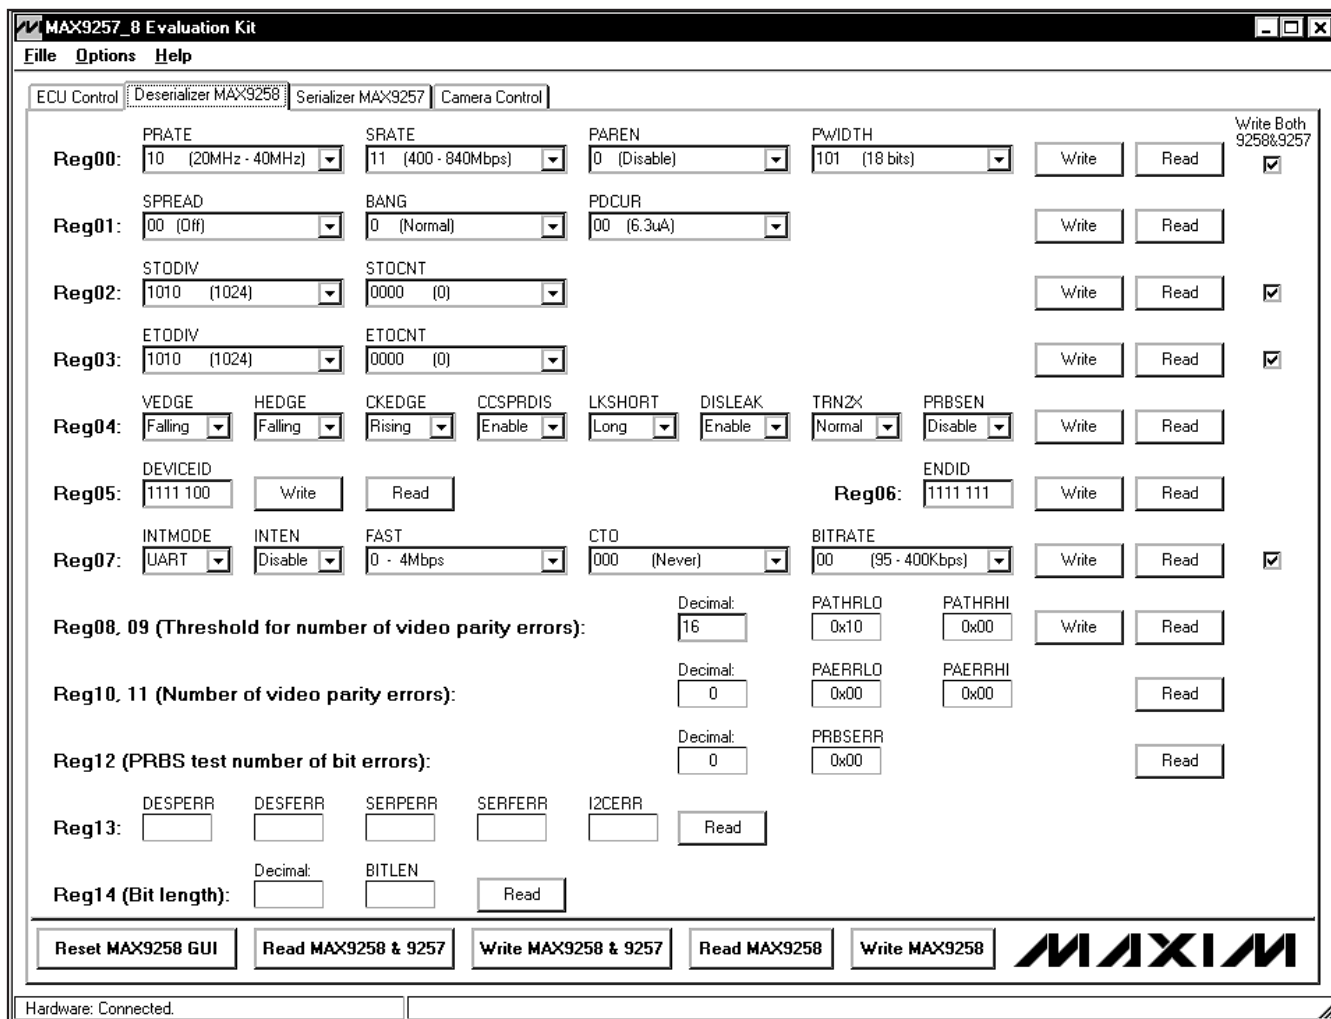

Figure 4. MAX9257/MAX9258 Evaluation Kit Software—Deserializer MAX9258 Tab
- 17) Click on the **Deserializer MAX9258** tab to move to the **Deserializer MAX9258** tab sheet (Figure 4).
On the **Deserializer MAX9258** tab sheet (Figure 4), the ECU can write or read all registers on the MAX9258 by pressing the **Write** or **Read** buttons on the right of each register. Refer to the MAX9257/MAX9258 IC data sheet for the definition of each register.
- 3) Navigate to the **Deserializer MAX9258** tab sheet (Figure 4). Press the **Read MAX9258 & 9257** button to refresh the current register values on the GUI.
- Navigate to the **Deserializer MAX9258** tab sheet (Figure 4). Press the **Read MAX9258 & 9257** button to refresh the current register values on the GUI.